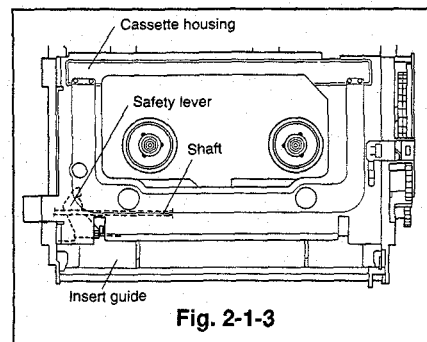

Fig. 2-1-3
- ③ Slowly lower the cassette housing onto the main plate of the deck.
- ④ Make sure the record safety lever enters between the insert guide of the cassette housing and the shaft as shown in Fig. 2-1-3. Align the four points (c, d, e and f), located on the bottom of the housing with the matching holes in the deck. Secure the cassette housing on the deck with the two screws (a and b).